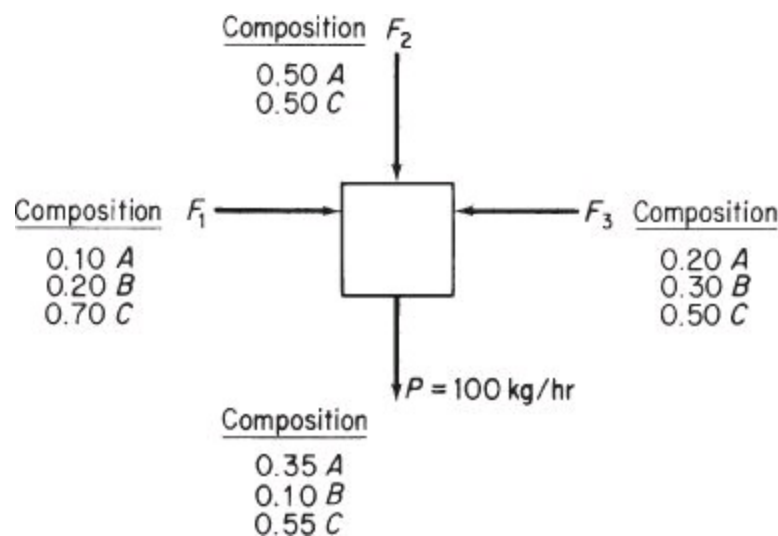

Figure P3.2.2
****3.2.2.** For the process shown in Figure P3.2.2, how many material balance equations can be written? Write them. How many independent material balance equations are there in the set?